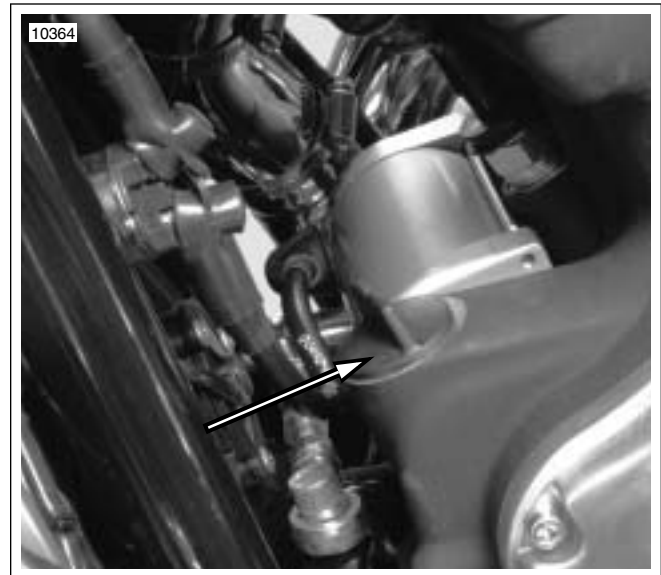

Figure 1-19. Dipstick/Filler Cap
2. See Figure 1-19. Unscrew the oil filler cap (with attached dipstick) by turning the filler cap counterclockwise. Remove the filler cap and dipstick and wipe the dipstick clean.
3. See Figure 1-19. Unscrew filler cap (with attached dipstick) located at front of engine on left side. Remove filler cap and dipstick and wipe dipstick clean.
5. See Figure 1-19. Remove filler cap and check oil level on dipstick.
2. See Figure 1-19. Remove the oil filler plug/dipstick on left side.
7. See Figure 1-19. Select the grade of oil for the lowest temperature expected before next oil change. Refer to Table 1-3.